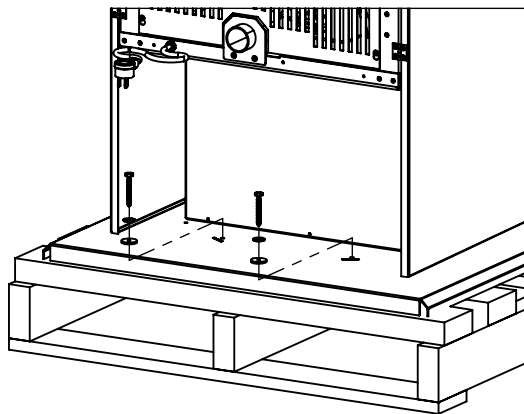

Figure 2: Removing screws from the rear of the stove.
1. Two of the screws are at the back of the unit as shown in Figure 2.